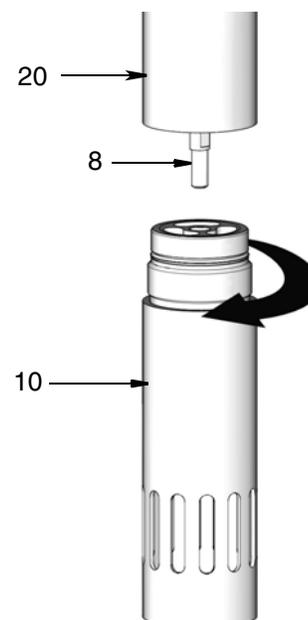

FIG. 7
6. Unscrew foot valve housing (10) from cylinder (20) (FIG. 7).